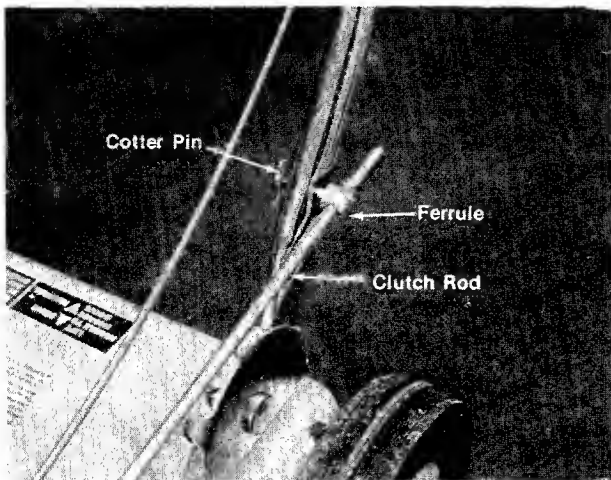

FIGURE 4.
1. Remove the cotter pin. See figure 4.